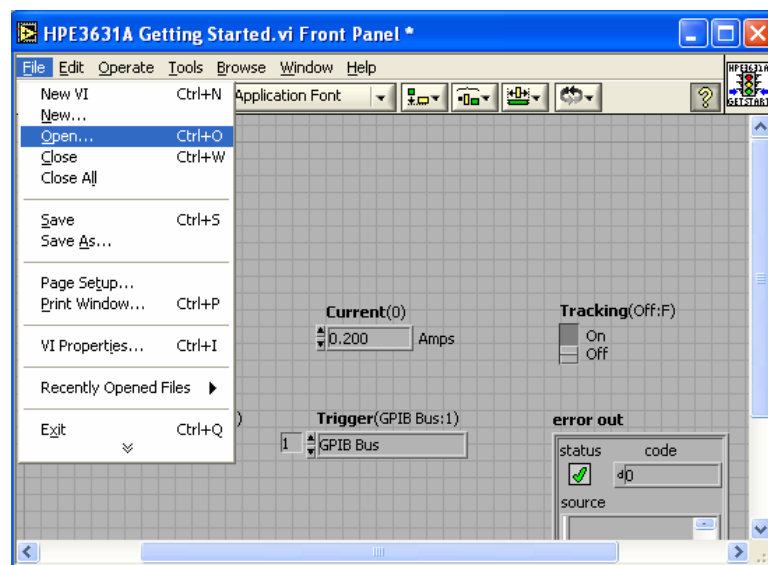

Figure 14. Opening a new VI
1. Click on *File*→*Open* from the HPE3631A Getting Started VI Front Panel menu bar, as shown in figure 14.